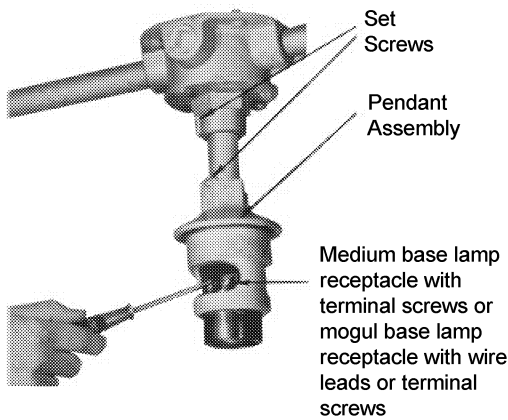

Figure 1 - EVA Series
2. Install pendant assembly on conduit (Fig. 1). Other mounting assemblies are shown in photos above.